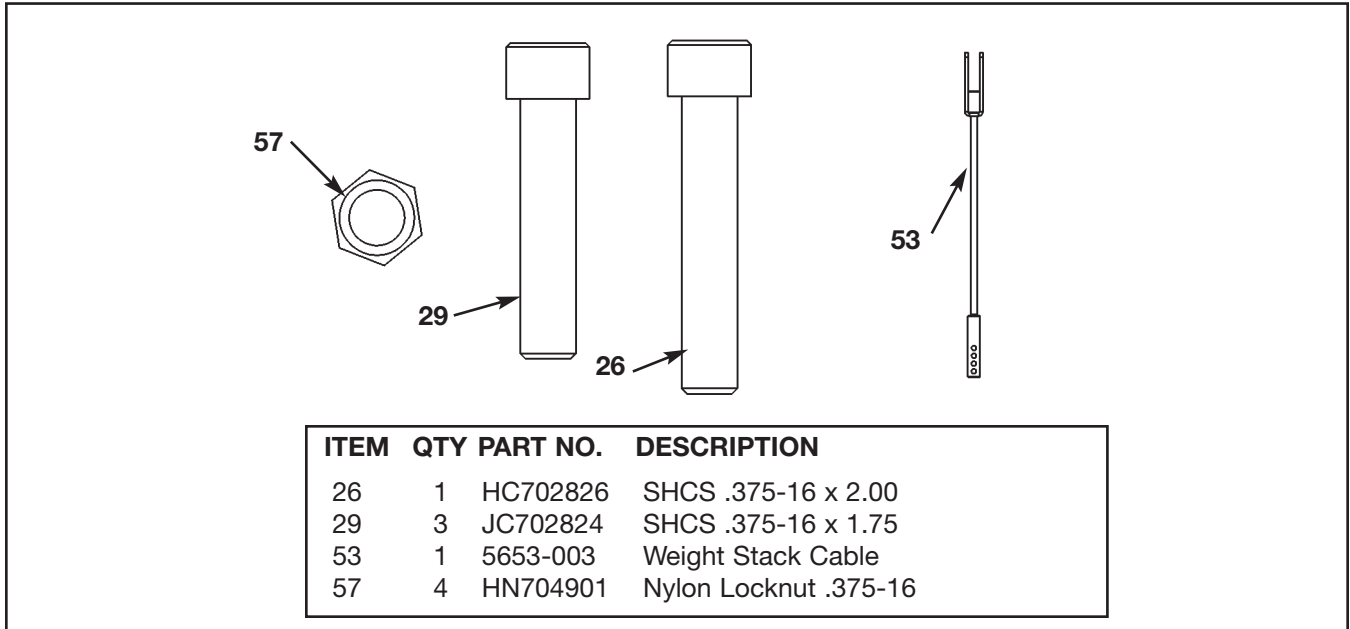

Figure 5
- F. Remove both hardware packs from the carton and verify the contents of each. See Figures 5 - 7.
NOTE: Figures 5 and 6 are for the Free Standing configuration.
A. Locate the half weight peg (#67), BHSCS .25-20 x .75 (#84) and split lockwasher (#82) from the column hardware pack shown in Figure 5.